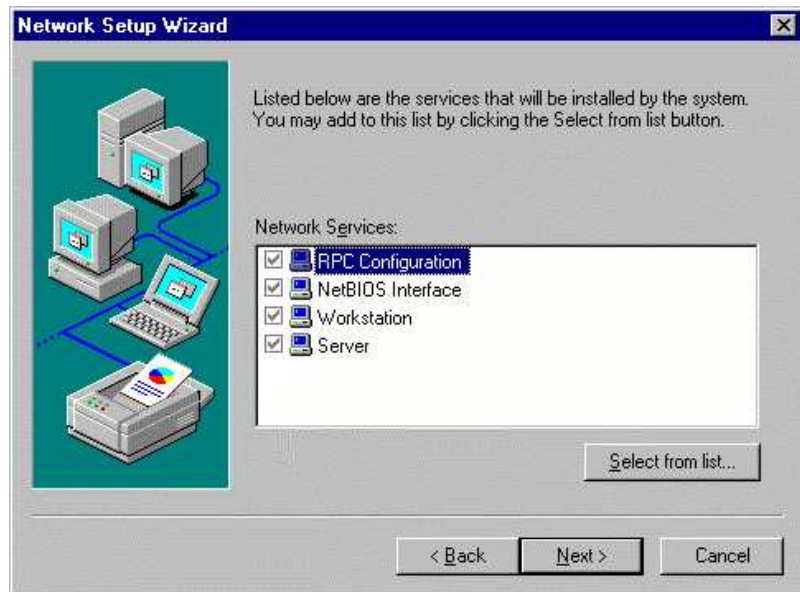

Fig. 8-10 Select Network Services
- ▶ Accept the selected Network Services and confirm with "Next" (Fig. 8-10).